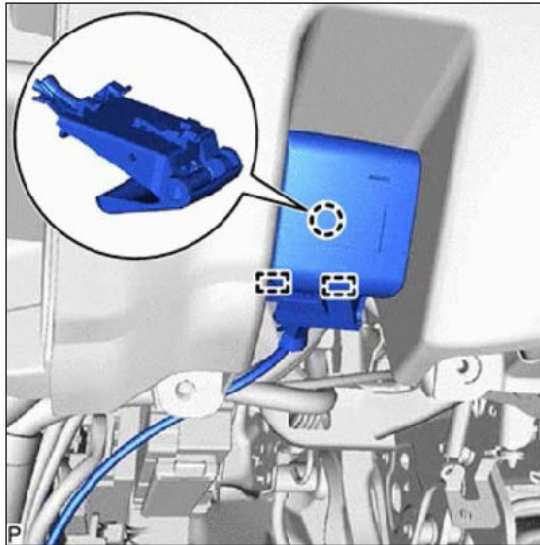

Figure 15
- (a) Disengage the claw and 2 guides to disconnect the hood lock control lever sub-assembly. Figure 15.